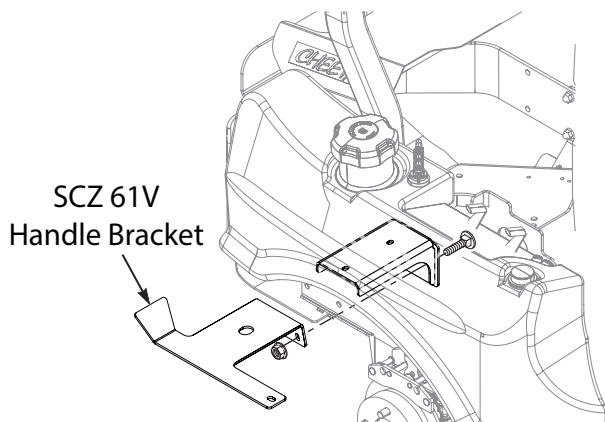

Figure 3-26. SCZ-61V OCDC Handle Bracket Install
2. Install the OCDC handle bracket to the right hand fuel tanks mounting bracket as shown in Figure 3-26. Secure using two (2) 5/16-18 x 1" carriage bolts and two (2) 5/16-18 serrated flange nuts. See Figure 3-26.